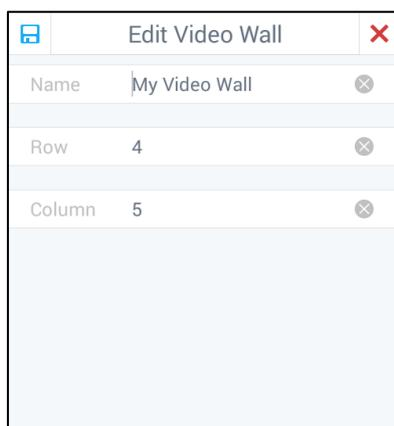

Figure 4.33 Editing the Video Wall
1. Click  on the upper-right corner. A window pops up as shown in Figure 4.33.